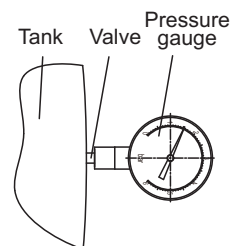
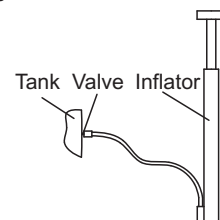

Fig. 13
Fig. 14
- 7). After the water pump is used, it is necessary to check the pressure inside the tank regularly. The inspection method is as shown in Figure 13 below , if the pressure in the gas tank is lower than 1 . For 2Bar, the inside can be inflated by a pump or other inflator, as shown in Figure 14 below. The maximum pressure in the tank should not be greater than 1.6 Bar, and the pressure value in the tank is recommended to be within the range of 1.4-1.6 Bar.